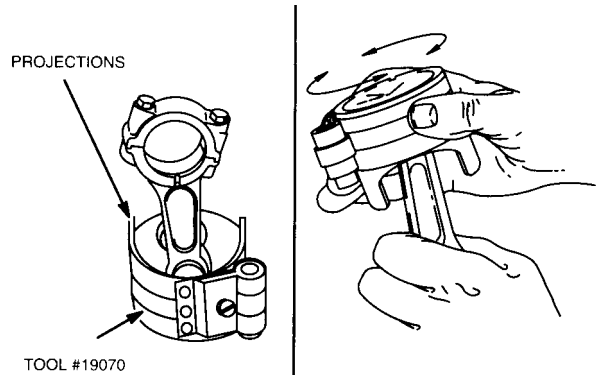

Fig. 2 - Compressing Rings
1. Oil piston rings, piston skirt, and compress rings with Ring Compressor, Briggs & Stratton P/N 19070, Fig. 2.
- c. Then loosen ring compressor very slightly so that compressor can be rotated on piston skirt while holding connecting rod, Fig. 2.